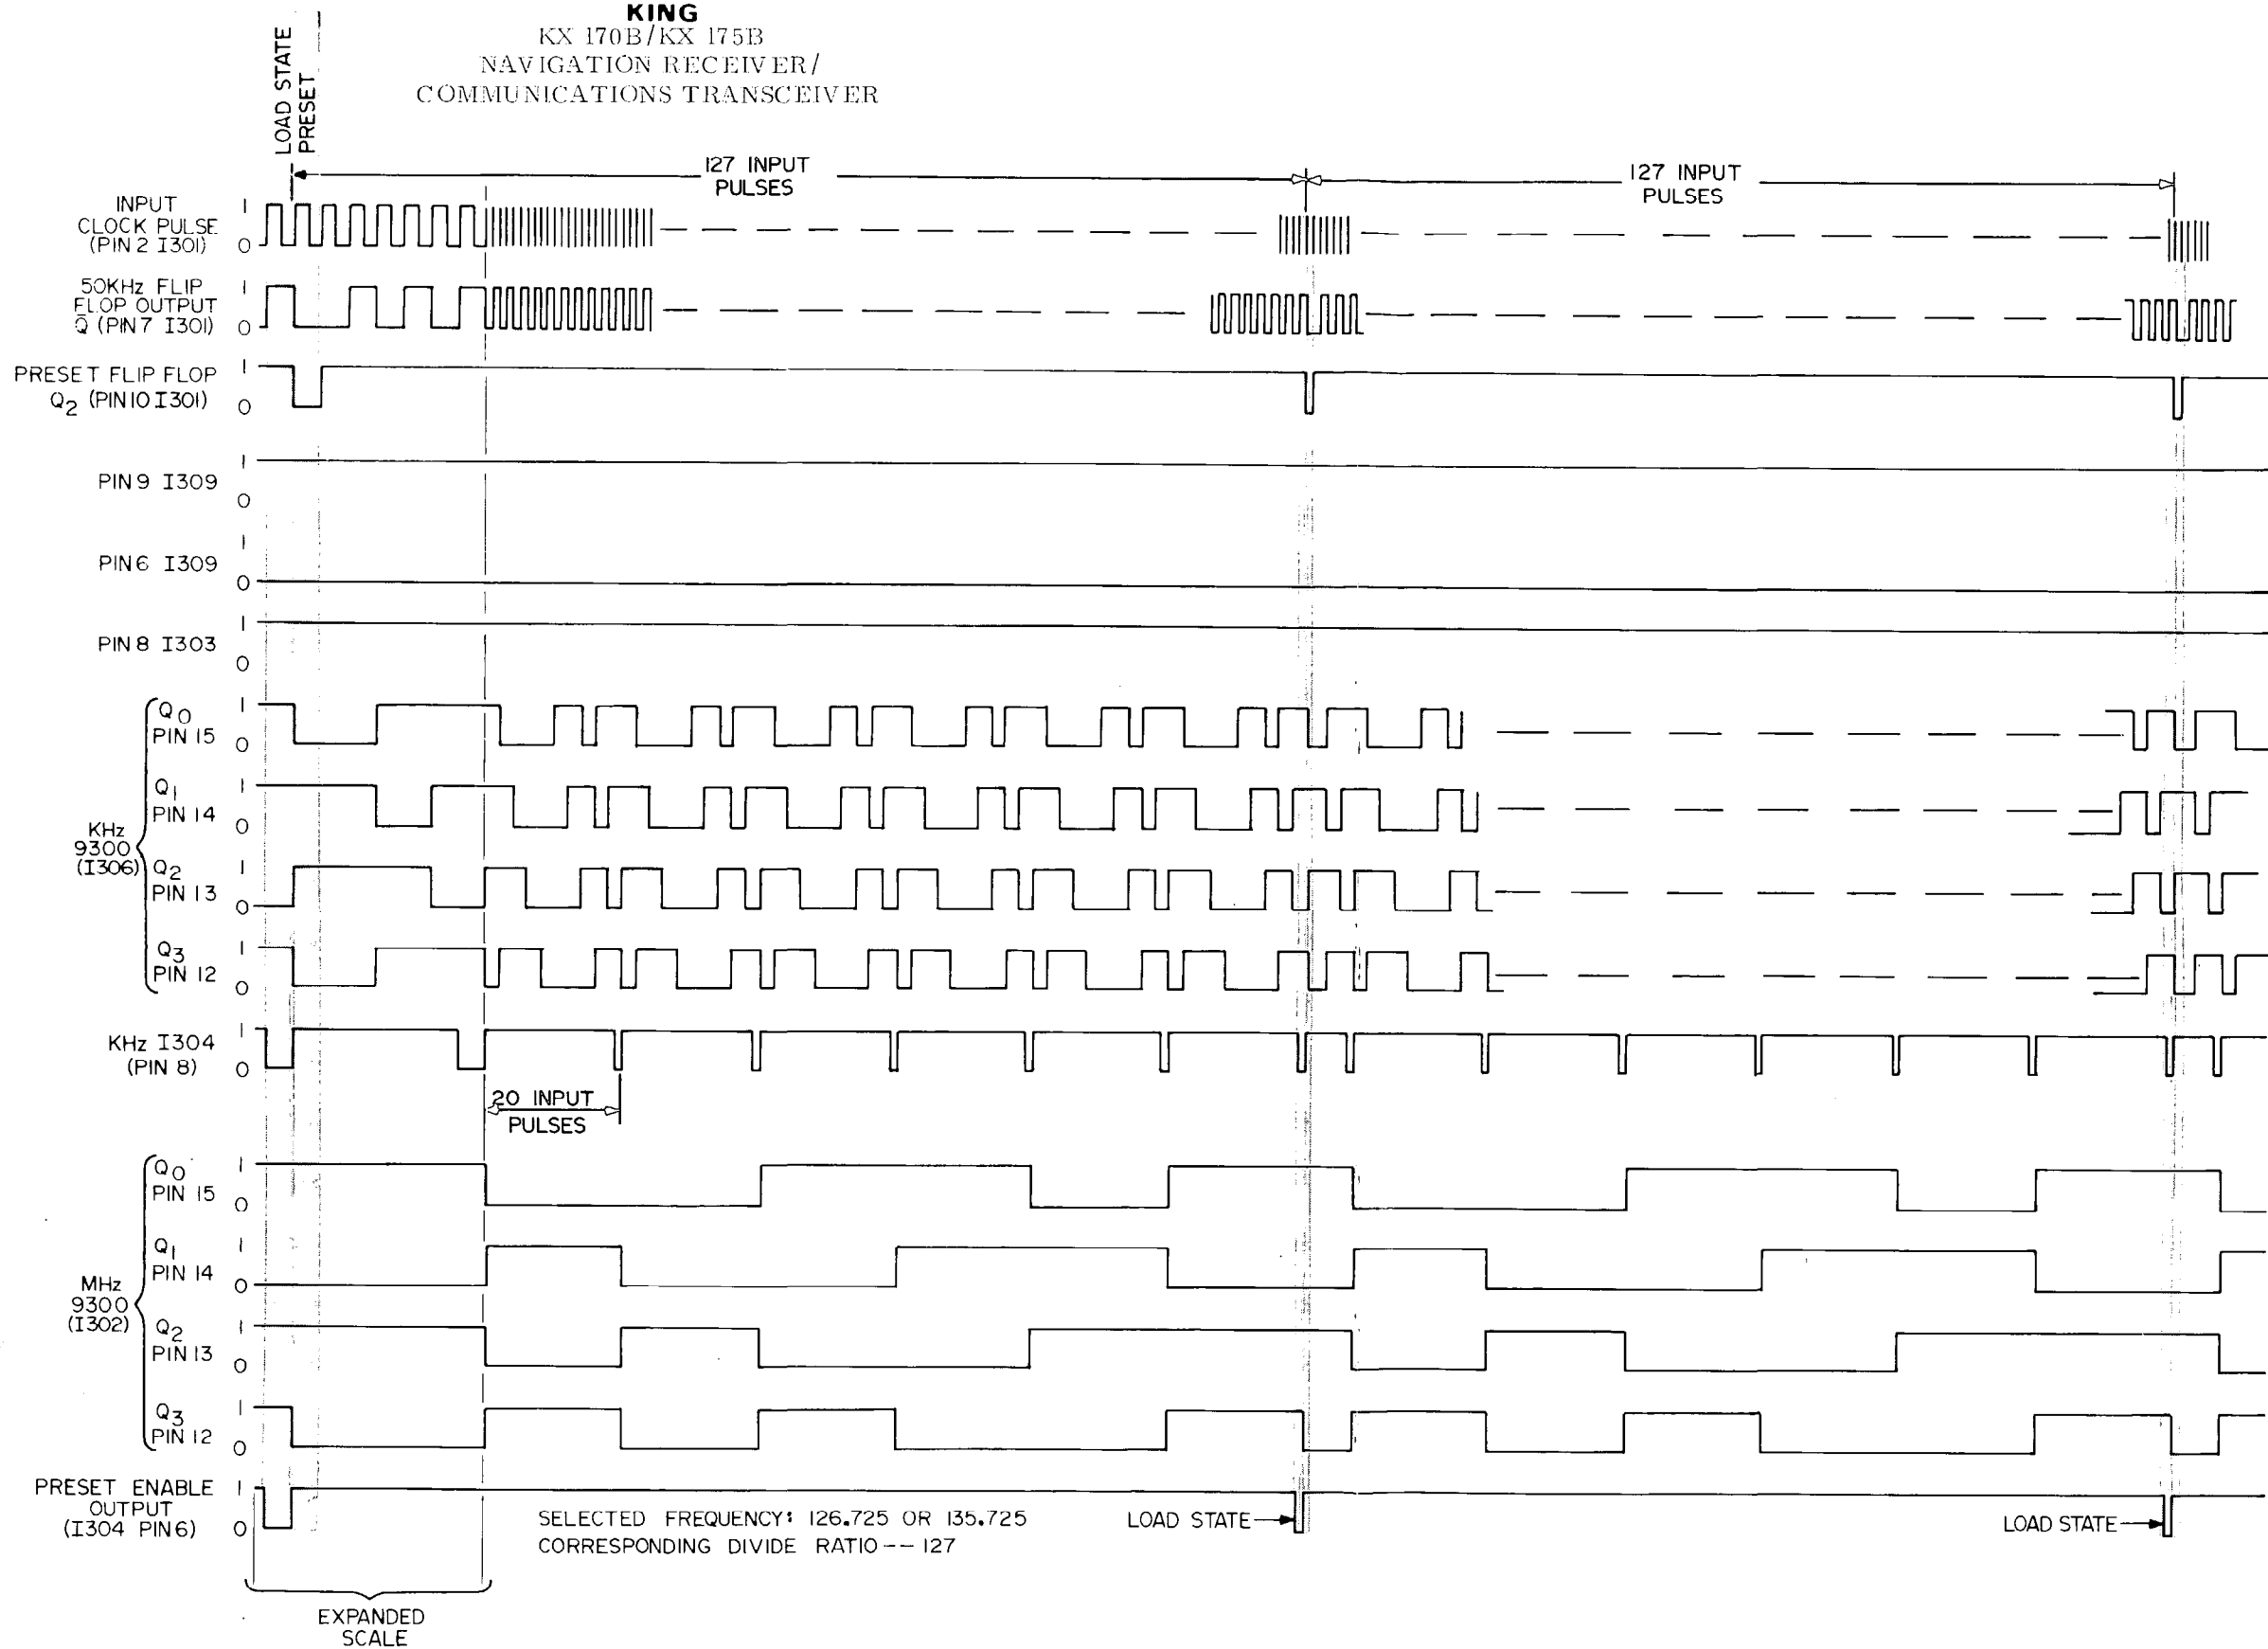

FIGURE 5-21 COMM PROGRAMMABLE DIVIDER TIMING DIAGRAM
- B. Compare the waveform at Pin 6 of I304 to the equivalent point in the NAV SMO or to the timing diagram (See Figure 5-21 and 5-22). The desired output is a pulse train with a 40 μ sec. period (25KHz rep. rate), at 0 volts base line, +4.0 volt level.
- D. Failure to meet the requirements of Step B requires a complete check of the I-C input/output timing as defined in the timing diagram (Figure 5-21 and 5-22).